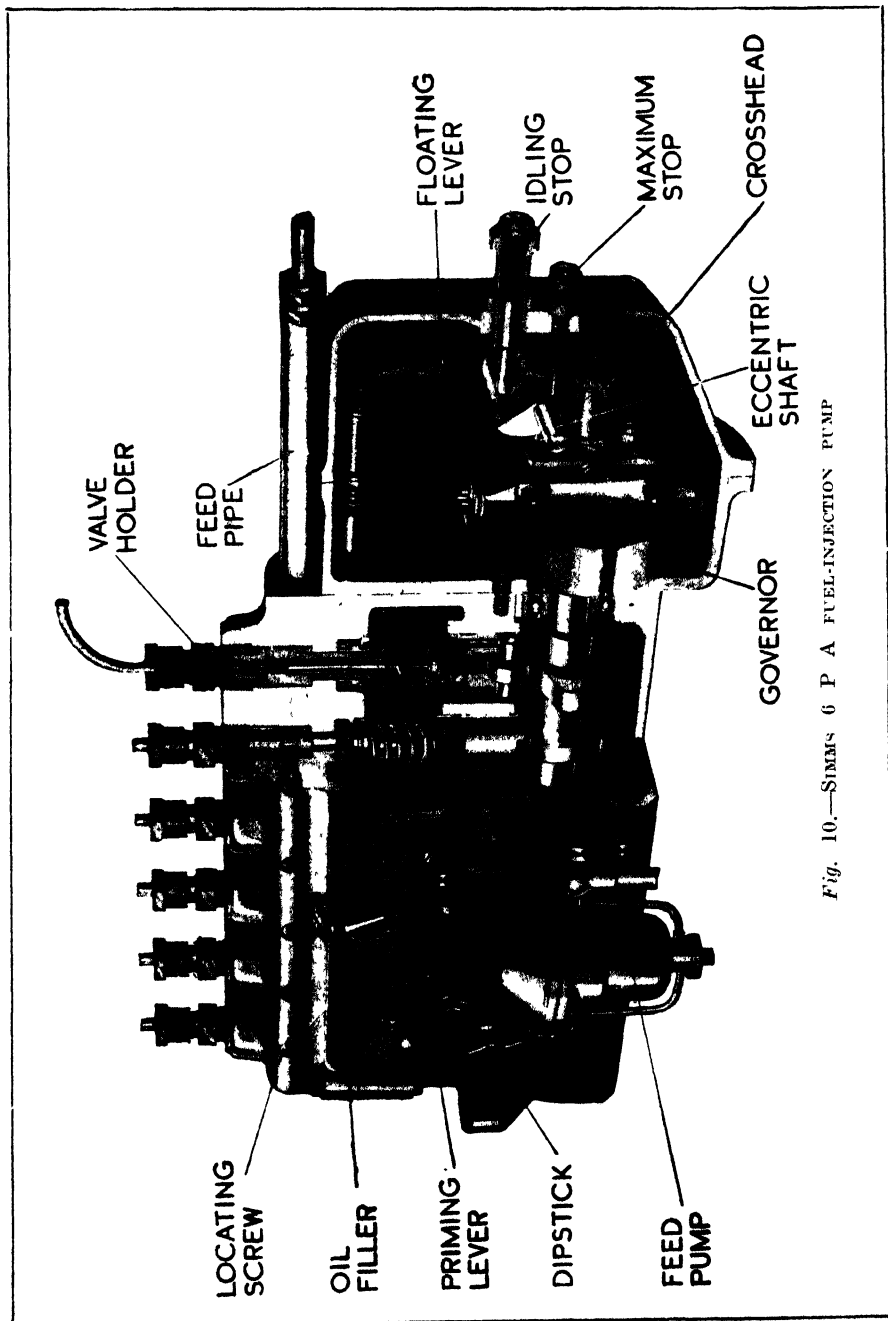

Fig. 10.—SIMMS 6 P A FUEL-INJECTION PUMP
(1) The pumping element is illustrated in Fig. 10. The plunger has the comparatively short stroke of 7.5 mm., which reduces spill disturbance and the stress in the plunger spring. The plunger helix is designed to preserve the maximum wearing surface at the upper end of the plunger.
(2) The delivery valve is of the piston pressure-relief pattern.
(3) The tappets are provided with a screw adjustment and needle-roller bearings to the cam follower.
(4) The control rack and pinion mechanism is made as light as possible to give sensitive governing at idling speeds.